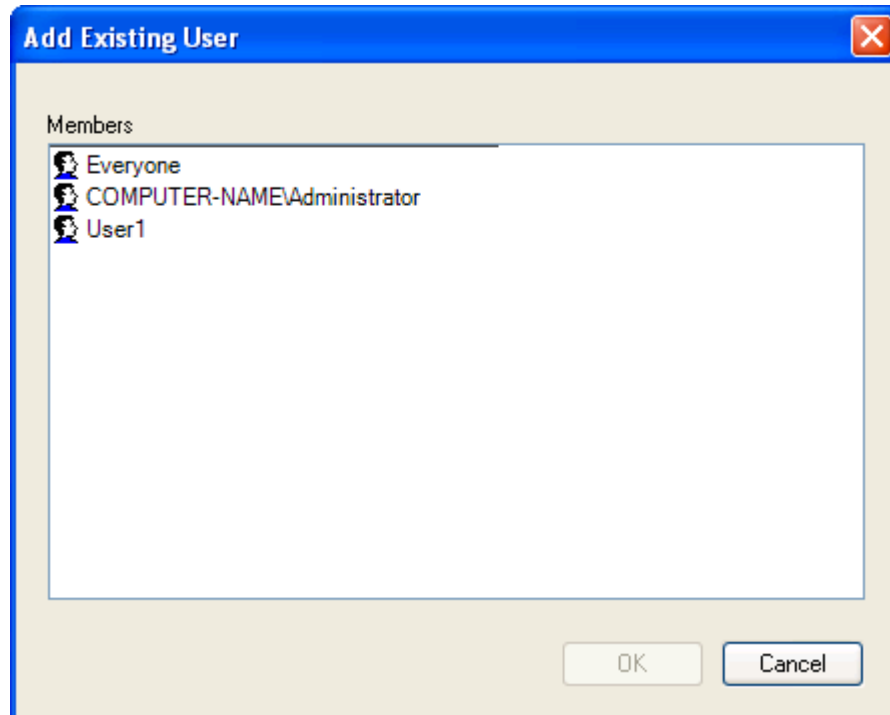

Figure 75 - Add Existing User Window
1. Click on the **Add** button. The **Add Existing User** window (Figure 75) appears.